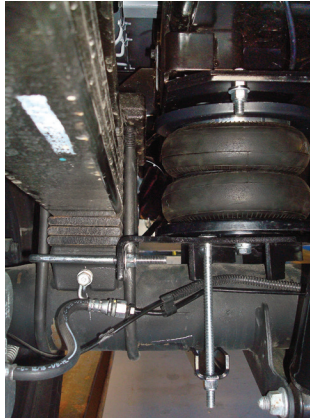

fig. E.1
1. The following images show the finished installation of both sides (Figs. E.1, E.2, E.3 & E.4).